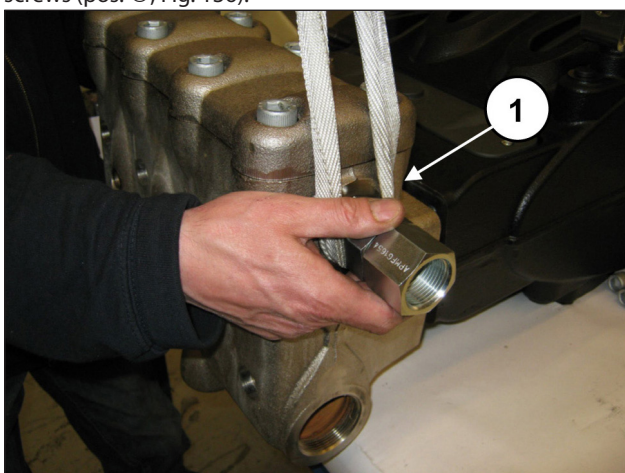
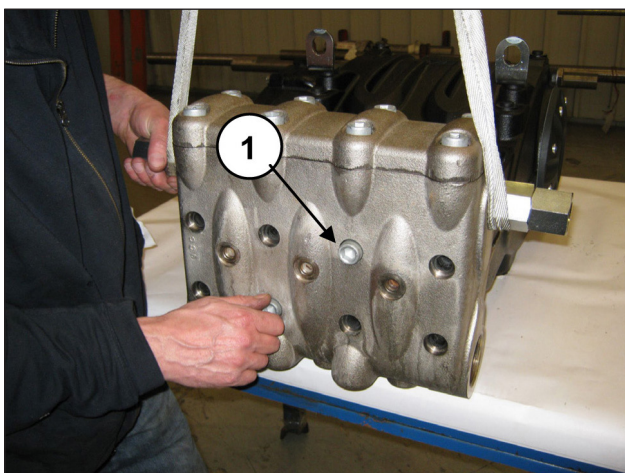

Fig. 135
Fig. 136
Assemble the head on the pump casing (pos. ①, Fig. 135) taking care not to hit the pistons and screw in the 8 M16x180 screws (pos. ①, Fig. 136).